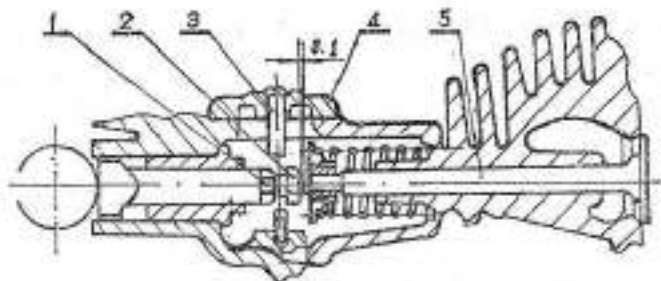
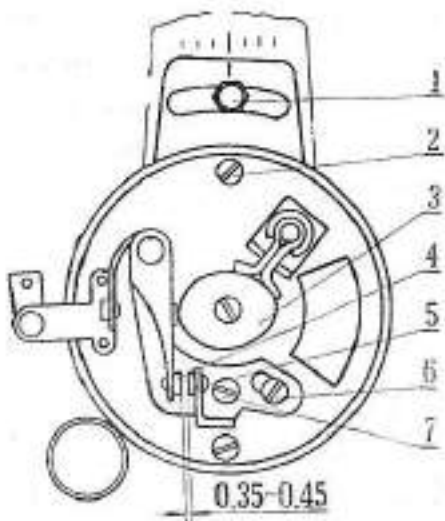
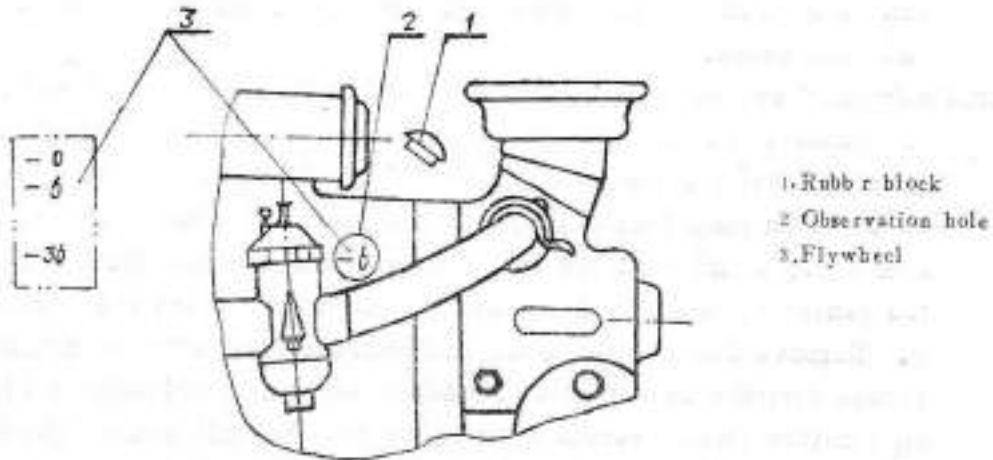

Fig.7 Mixture Valve Adjusting Schematic Diagram
Fig.9 Schematic Diagram of Distributor FDQ-5
Fig . 10
- 4.2.1 Open the valve chamber cover (Item 4 in Fig.7).
- 4.2.3 Move the adjusting screw (Item 2 in Fig.7) with screw driver and
- 4.2.4 If opening does not meet the requirement, loosen nut(Item 1 in Fig.7) and readjust the opening.
a. Open the valve chamber cover (Fig.7), remove rubber block (Fig.10) from observation hole in crankcase, apply kickstarter to operate the crank shaft. When inlet valve of left cylinder opens, apply gently kickstarter to make the "O" scale line on flywheel be in the center of observation hole.
and centrifugal ignition advance distributor. It can automatically change ignition angle with the change of engine RPM to get optimum ignition time for the engine. It is installed on top left of front crankcase. Its adjusting methods are as follows (see Fig.9).
- 4.4.2.3 CJ-750D engine ignition angle adjusting (see Figs 9 and 10).
- a. Remove the rubber block from observation hole in crankcase, apply gently kickstarter to make mark "6" on flywheel be in the center of observation hole (see Fig. 10). Loosen distributor pressing nut (Item 1 in Fig.9) and turn the installation plate to make the scale align with the center scale on front crankcase and then tighten the pressing nut.
- b. Remove distributor cover and connect parallelly an indicating light across distributor capacitor. Loosen securing bolt (Item 1 in Fig.9), turn on ignition switch, rotate distributor till the indicating light just comes on (at this moment the platinum contacts are just setting apart to the extent of a paper-thick clearance). Tighten the securing bolt, operate